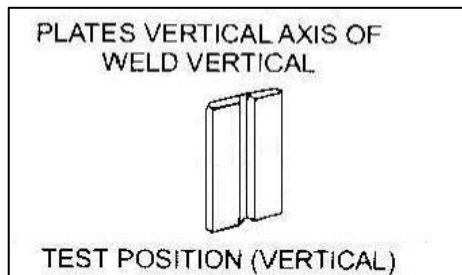

Figure A6.7 Vertical Position
- (3) Vertical Position (figure A6.7)- Plate in a vertical plane with the axis of the weld vertical